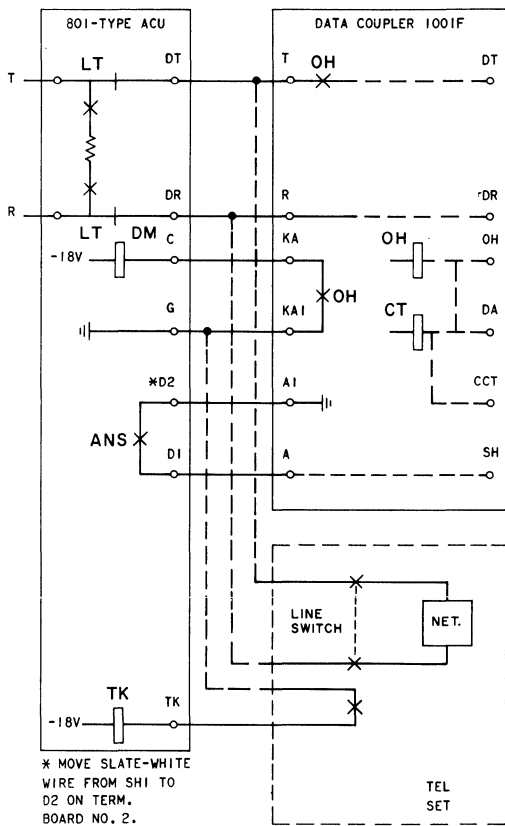
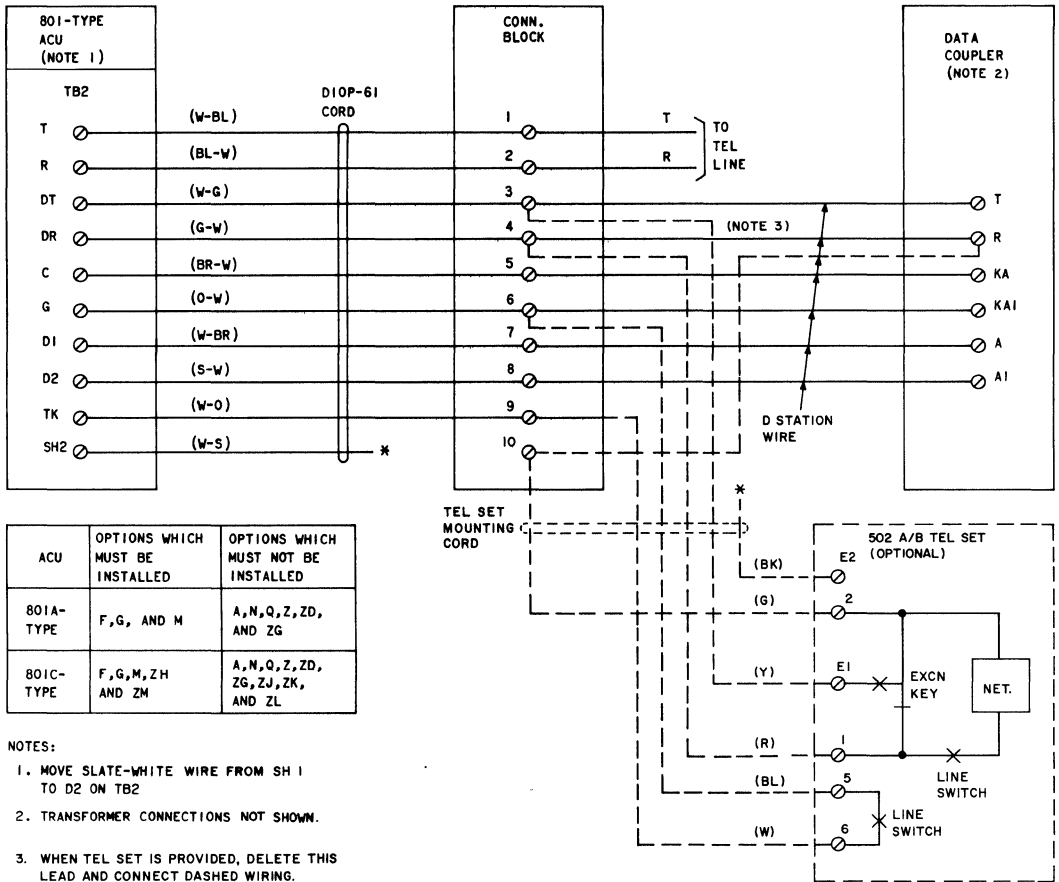

Fig. 11—801-Type ACU Partial Functional Schematic With 1001F Data Coupler
Fig. 12—801-Type ACU Connection With 1001F Data Coupler
3.06 The data coupler is designed to operate with automatic data terminals which can generate dial pulses for automatic calling. The coupler will also operate with a DAS 801-type ACU to provide the automatic calling function on either TOUCH-TONE or dc dial pulse lines. A partial schematic of a coupler/ACU connection is shown in Fig. 11 and a description of operational sequences is provided in the following text. A diagram for connecting the ACU to the coupler is shown in Fig. 12.